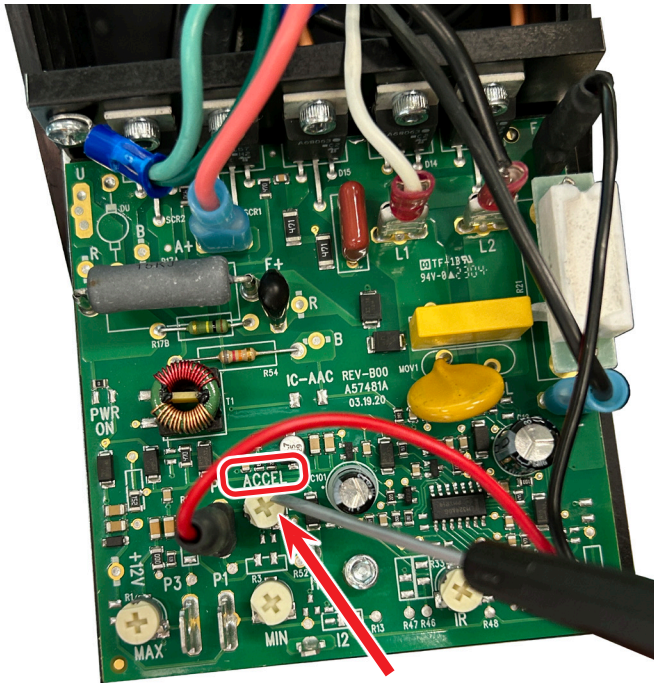

FIGURE 3—ACCEL pod adjustment on the Sherline speed-control unit.
- 5a. Use a Phillips head screwdriver and turn the white adjustment screw on the "ACCEL" pod to change the maximum RPM (see Figure 3). This pod is very